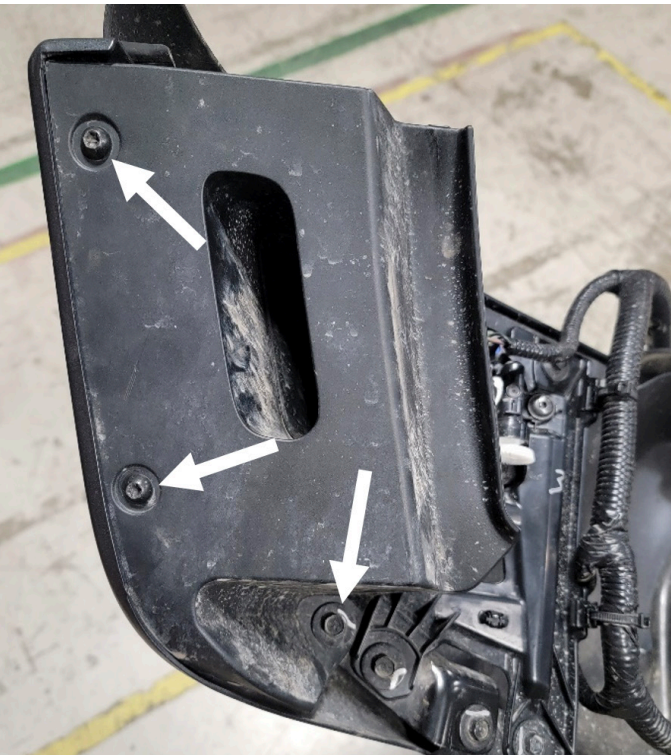

Figure 7
8. Remove the 2x button head bolts and 10mm hex head bolt from the DS and PS bumper end caps. Figure 7.